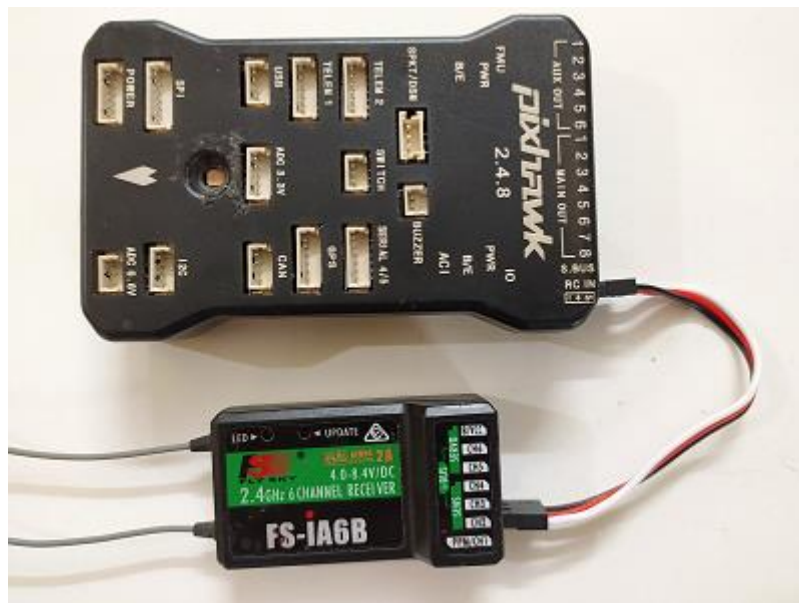

Fig.3.5
7. Connect the Receiver (CH1) to Flight Controller (RC IN). Refer Fig.3.5.